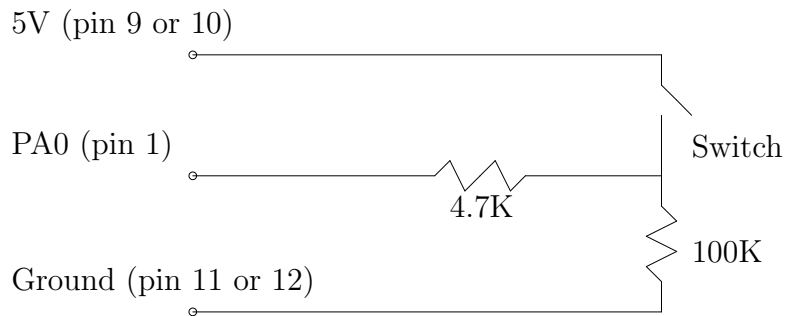

Figure 2: *Typical input connection*
5. Connect the input circuit as shown in figure 2.